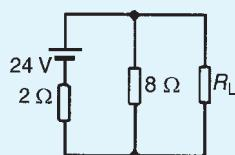

Figure 13.87
- Determine the value of the load resistance R_L shown in Fig. 13.87 that gives maximum power dissipation and find the value of the power. [$R_L = 1.6 \Omega$, $P = 57.6 \text{ W}$]